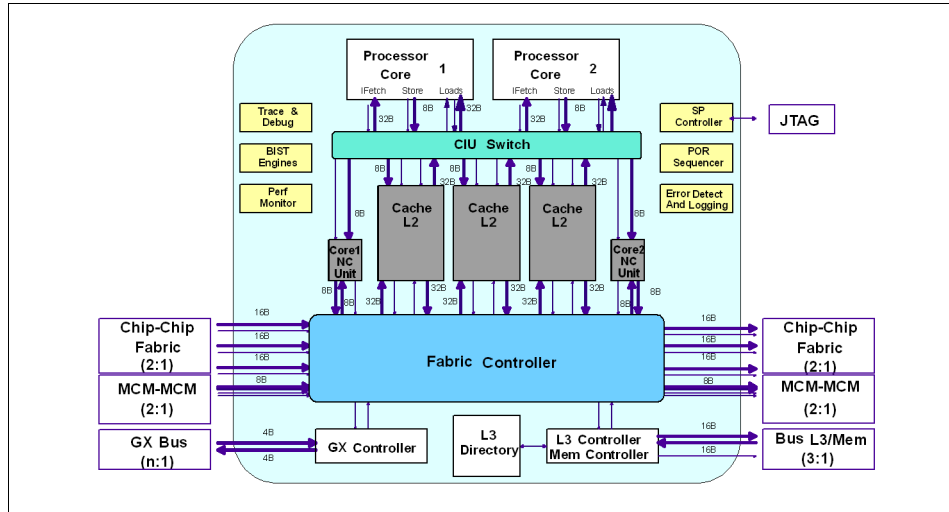

Figure 1-3 POWER4 chip logical view
The components of the POWER4 chip are shown in Figure 1-3 on page 9. The chip has two processors on board. Included in what are referred to as the processor are the various execution units and the split first-level instruction and data caches. The two processors share a unified second level cache, also onboard the chip, through a Core Interface Unit (CIU). The CIU is a crossbar switch between the L2, implemented as three separate, autonomous cache controllers, and the two processors. Each L2 cache controller can operate concurrently and feed 32 bytes of data per cycle. The CIU connects each of the three L2 controllers to either the data cache or the instruction cache in either of the two processors. Additionally, the CIU accepts stores from the processors across 8-byte wide buses and sequences them to the L2 controllers. Each processor has associated with it a noncacheable (NC) Unit. The NC Unit in Figure 1-3 on page 9 is responsible for handling instruction serializing functions and performing any noncacheable operations in the storage hierarchy. Logically, this is part of the L2.